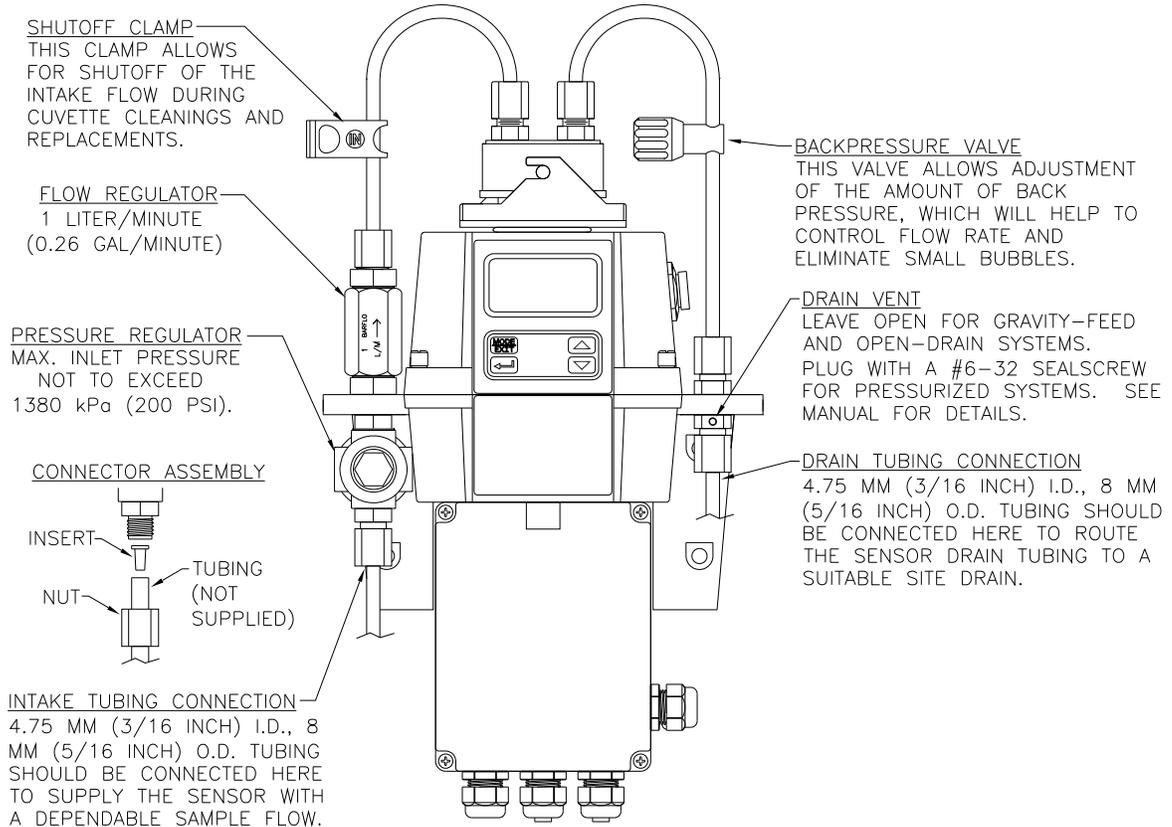

Figure 4: Recommended Plumbing for the Instrument
- Refer to Figure 4.
The recommended plumbing for the instrument is shown in Figure 4. The instrument is designed to require very little head pressure to operate; around 6.9kPa (1 PSI). Flow requirements are 100ml/min. – 1 liter/min. (0.026-0.26Gal/min). The integral flow regulator will limit flow to around 1 liter/min. The pressure regulator will allow for a maximum pressure of 1380kPa (200 PSI.). The maximum allowable fluid temperature is 50°C (122°F).
In figure 4, there are two operator controlled flow adjustment devices shown. The one on the input side is a shutoff clamp used during cuvette maintenance. The other device, located on the output side of the flow cell, is a backpressure valve. Backpressure may be required to prevent air from coming out of solution, which may be observed as tiny air bubbles.
3.2.2 Drain Vent: The AccUView has been fitted with a drain vent in the “OUT” bulkhead fitting. This fitting allows for atmospheric equalization, thus helping to alleviate bubble formation in the cuvette. Refer to Figure 4.